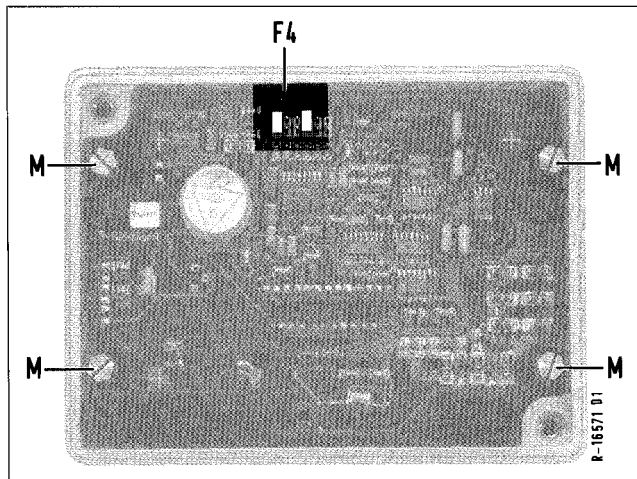

Figure 4 Input card (M = bolt)
2.2.2 Changing hysteresis (see figure 4 and table 1)